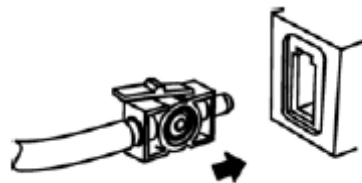
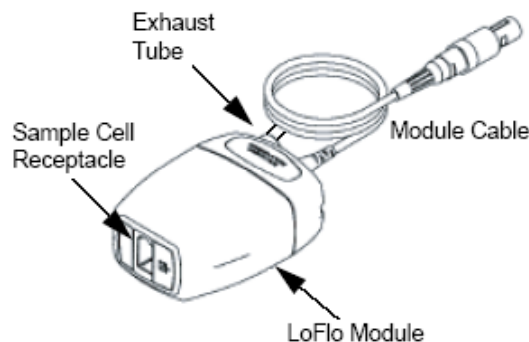

Fig.5-6-1
Fig.5-6-2
1) Insert the LoFlo sample cell into the LoFlo sample cell receptacle .A “click” will be heard when the sample cell is properly inserted. (Fig.5-6-1, Fig.5-6-2)